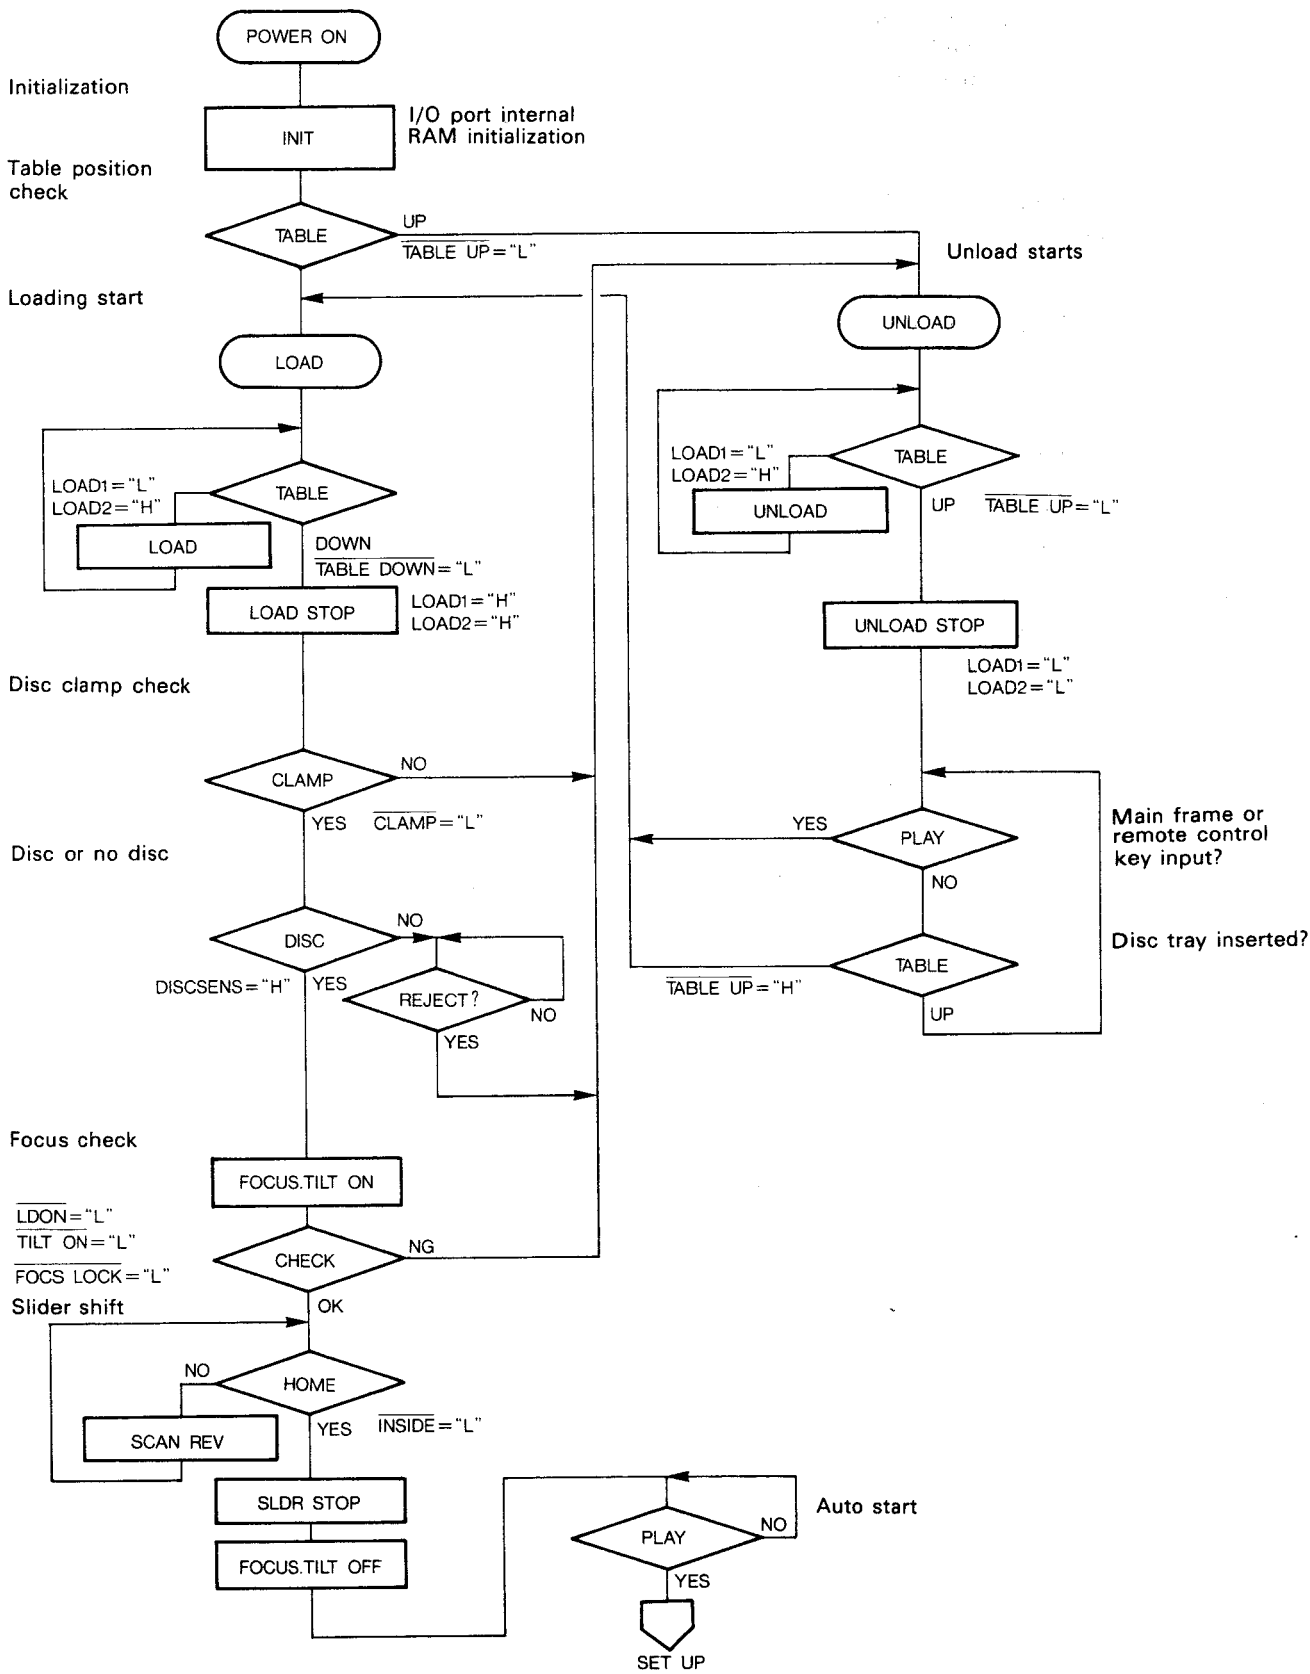

Fig. 5-1-1 Power on and load operation flowchart
- Power on and loading operation \Rightarrow Fig. 5-1-1